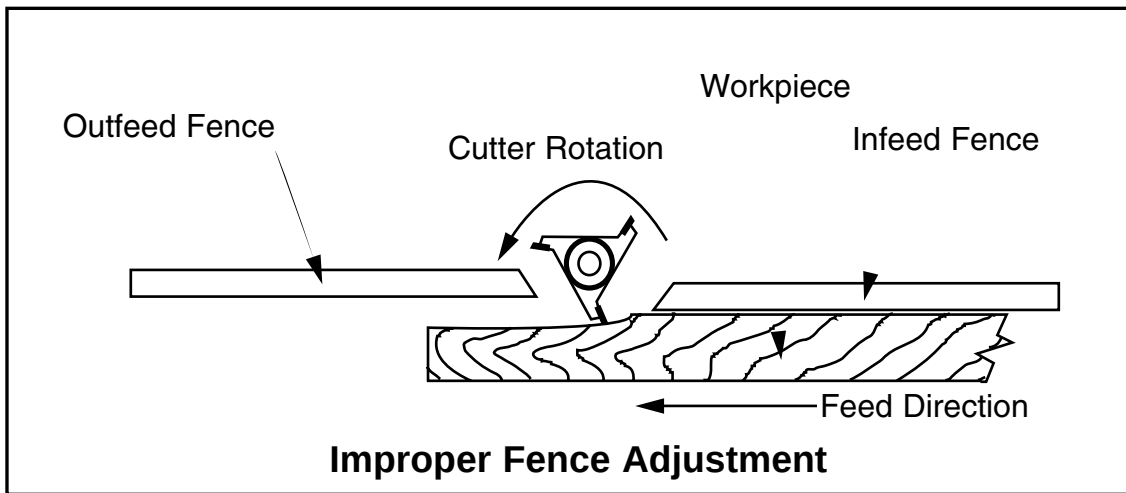
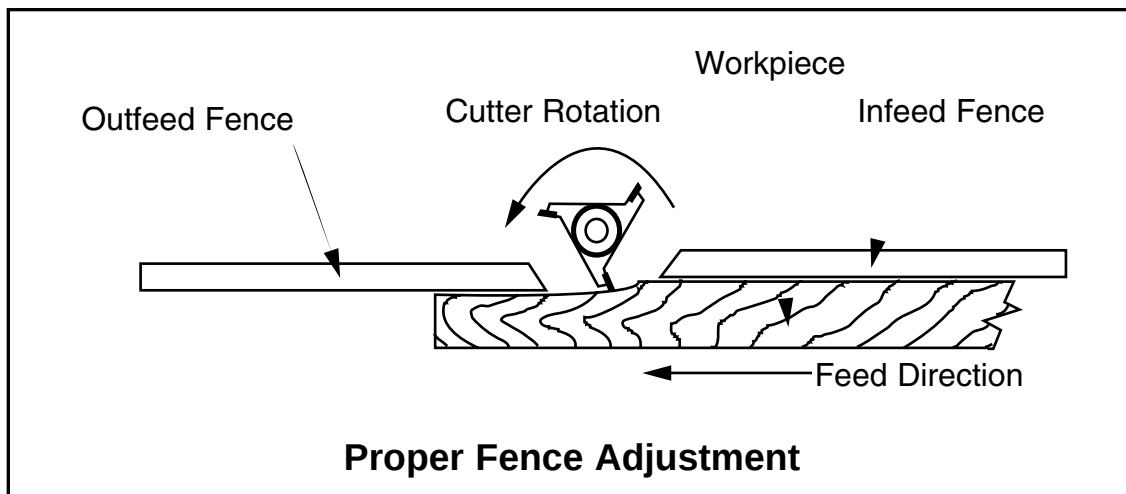

Figure 11
Figure 12
4. Adjust the outfeed fence to support the new profiled edge. Lock the outfeed fence into position and re-test. See Figure 11 and Figure 12 for improper and proper outfeed fence positioning.
When the shaping operation removes the entire face of the workpiece, the shaped surface will not be supported by the outfeed fence when the fences are paralleled, or mis-aligned, as shown in Figure 11. In this case, a test sample of the desired cut should be advanced to the point shown, then stopped. Once the shaper is turned off and the cutter has come to a complete stop, the outfeed fence can be re-adjusted to provide support for the milled surface of the workpiece. See Figure 12.